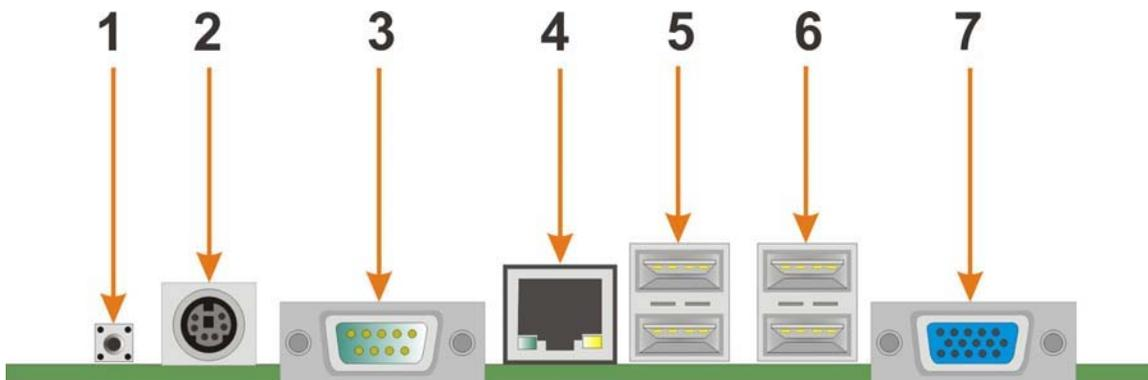

Figure 3-24: 3302160 CP Rear Panel
Figure 3-24 shows the 3302160 rear panel. The peripheral connectors on the back panel are connected to devices externally when the 3302160 is installed in a chassis. The peripheral connectors on the rear panel are:
CN Location: See Figure 3-24 (labeled number 2)
CN Location: See Figure 3-24 (labeled number 7)
- CN Location:** See Figure 3-24 (labeled number 3)
- CN Location:** See Figure 3-24 (labeled number 4)
3.3.5 USB Connector (1)
- CN Location:** See Figure 3-24 (labeled number 5)
3.3.6 USB Connector (2)
- CN Location:** See Figure 3-24 (labeled number 6)